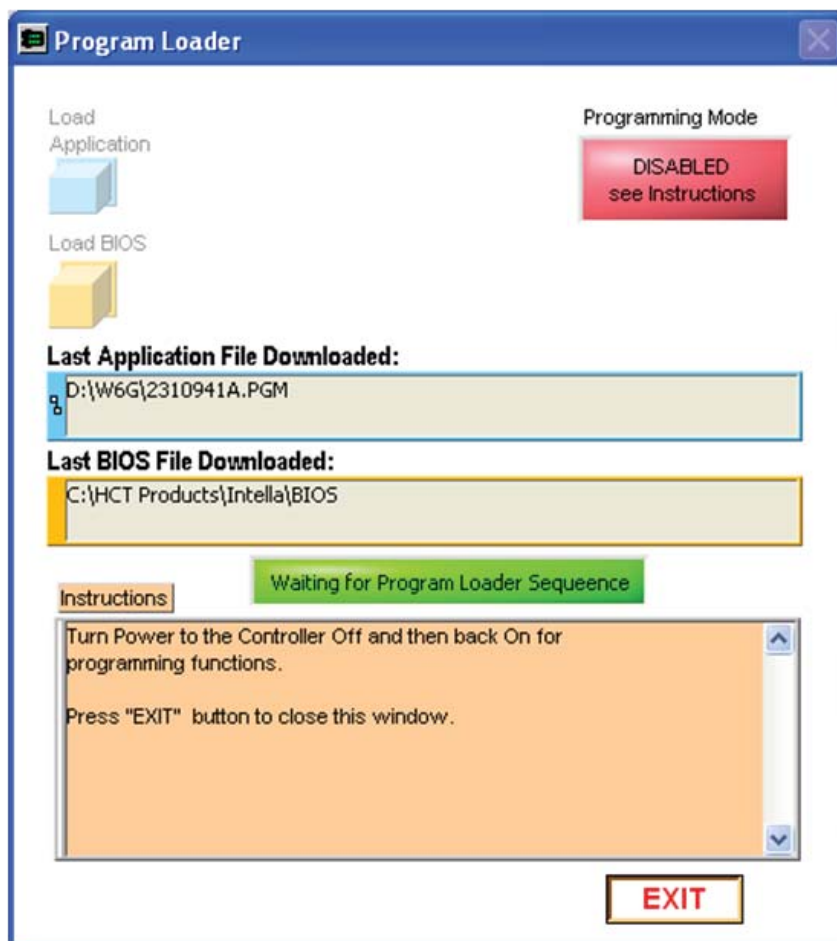

Figure 3-26 Program Loader
- To flash a new program or BIOS, select the Program Loader button in the DVC10 monitor window. You will then see the 'Program Loader' window (see Figure 3-26).